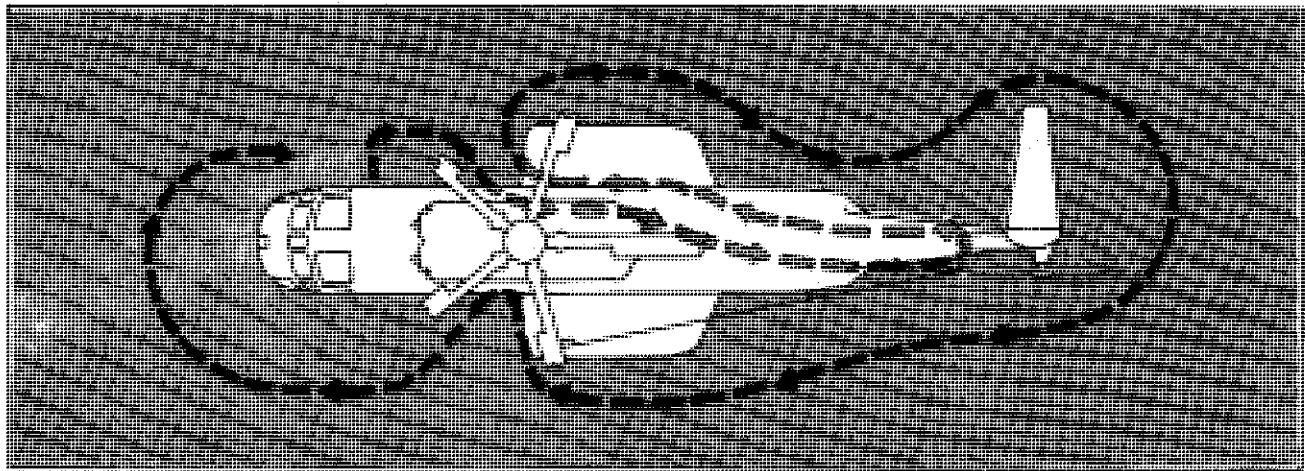

Figure 2-1. Exterior Inspection
- b. There has been no crew change from the previous flight and no maintenance has been performed. Exterior inspection will be performed in accordance with figure 2-1.